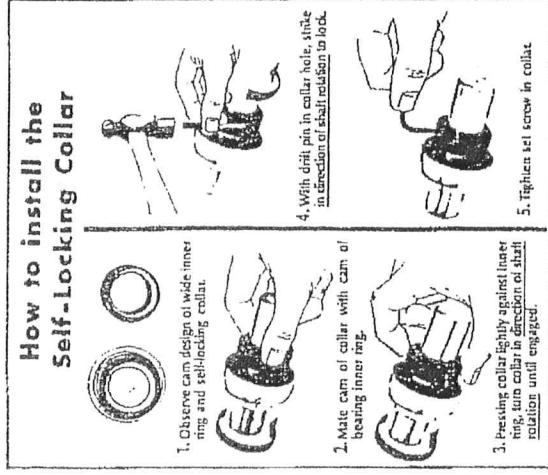

Fig. A-4
5. Loosen the locking collar for the bearing on the reduction unit drive side. On the 812B simply loosen the two set screws in the bearing collar to release the bearing from the shaft. The 816 and 820 planers have eccentric lock collars (see fig. A-4) on the bearings. To loosen a bearing with the eccentric lock collar reverse the steps in fig. A-4. First loosen the set screw in the locking collar (the reverse of step 5 in fig. A-4). Use a hammer and punch, in the other hole (not the set screw hole) in the collar to dislodge the lock collar. Release the lock collar by turning it opposite the normal shaft rotation (the reverse of step 4 in fig. A-4). Once the locking collar is broke loose, slide it back away from the bearing by hand (the reverse of step 3 in fig. A-4).